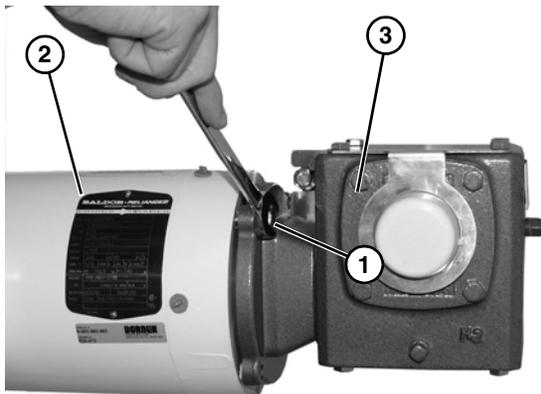

Figure 28
12. Install four bolts (Figure 28, item 1) securing motor (Figure 28, item 2) to gear reducer (Figure 28, item 3).